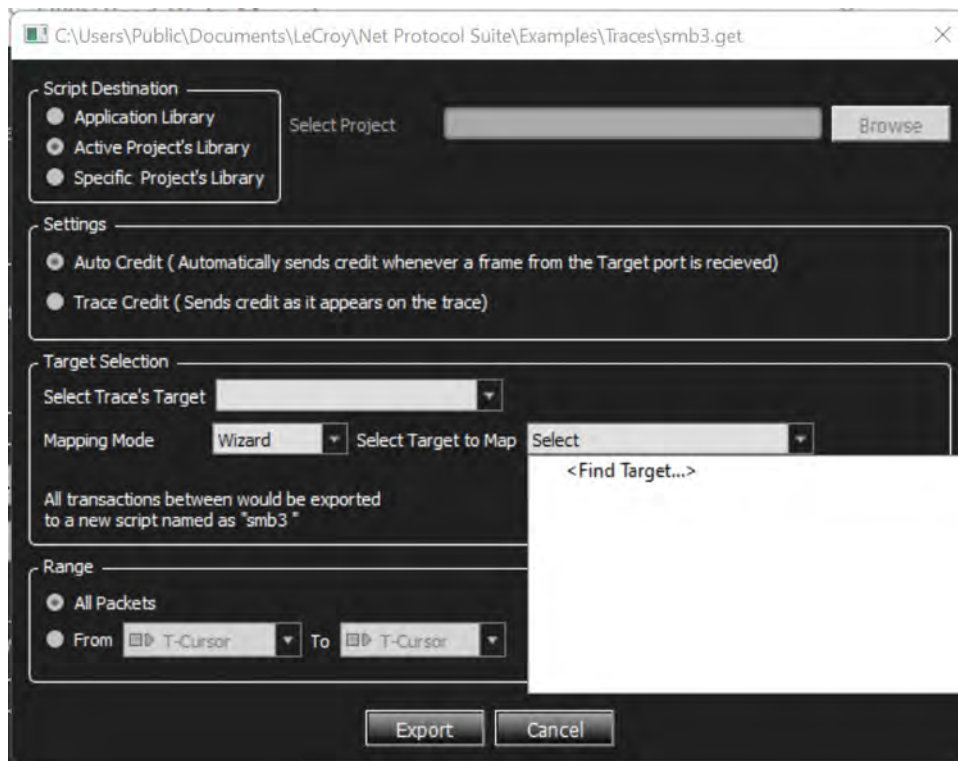

Figure 8.40: Wizard Mapping Mode
1. From the Mapping Mode drop down, select **Wizard**. This opens the **Select Target to Map** drop down menu. See Figure 8.40.